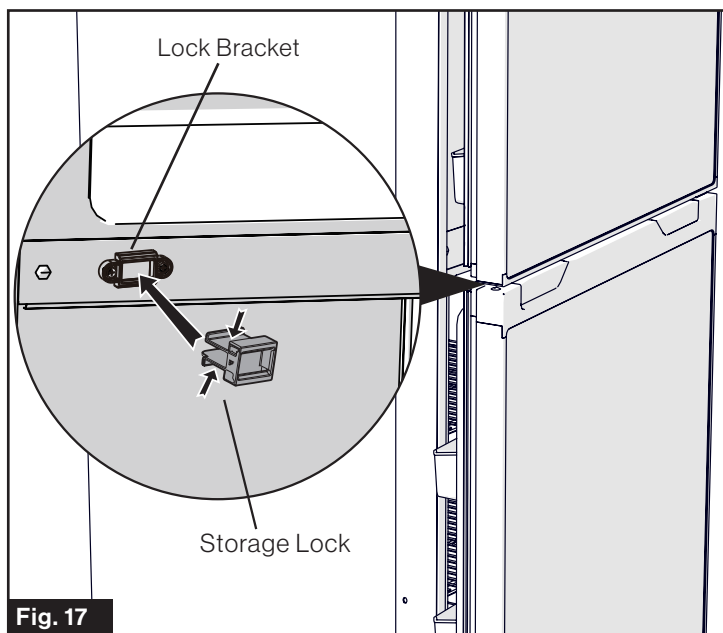

Fig. 17
2. Press both sides of the Storage Lock as per the arrows shown in Fig. 17 and pull to remove the Storage Lock.